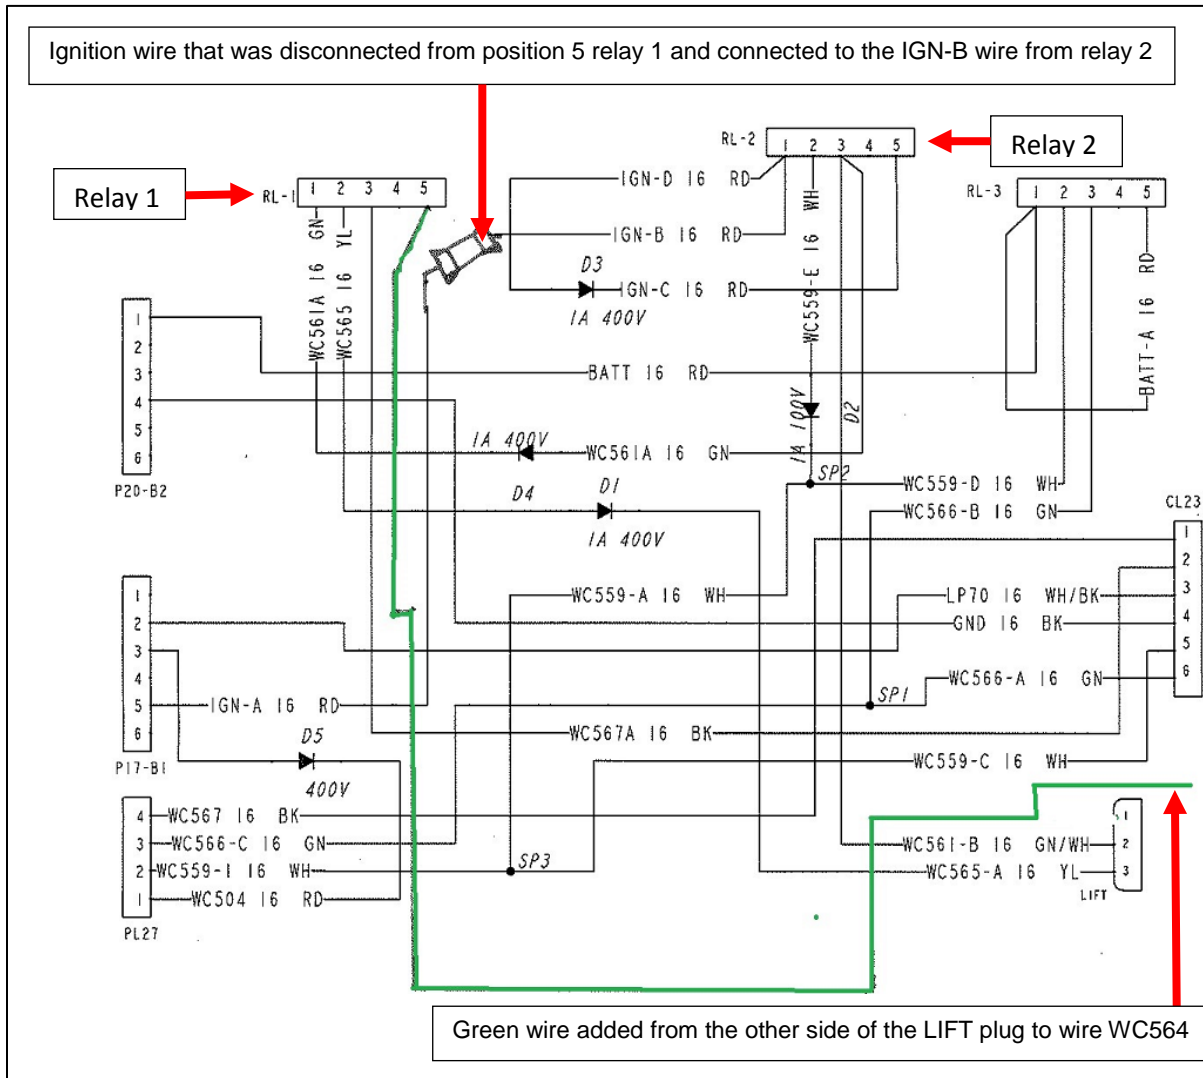
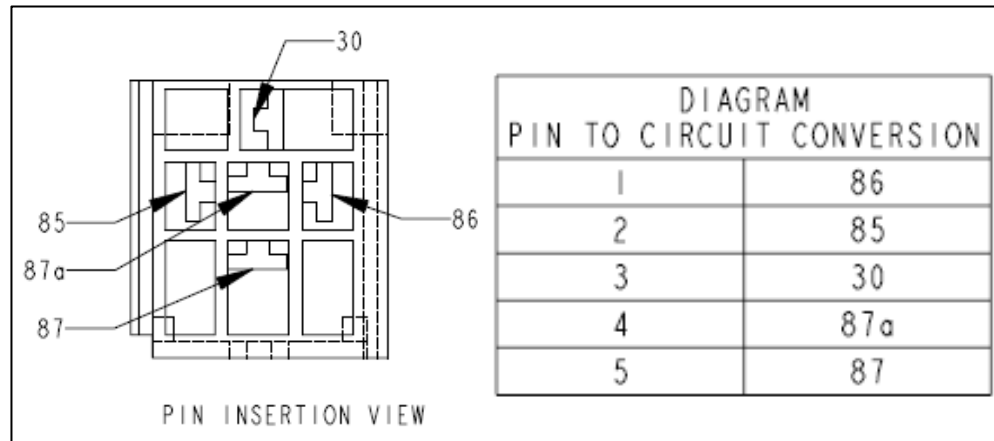

Figure 6: Schematic of Harness and Relays
Figure 7: Pin Insertion and Conversion for Relay
5. Connect the ignition wire that was in position 5 to the wire that was also in the same position 5 on the relay with a butt connector. See **Figure 6** and **Figure 7** for a schematics/diagrams showing the connections.